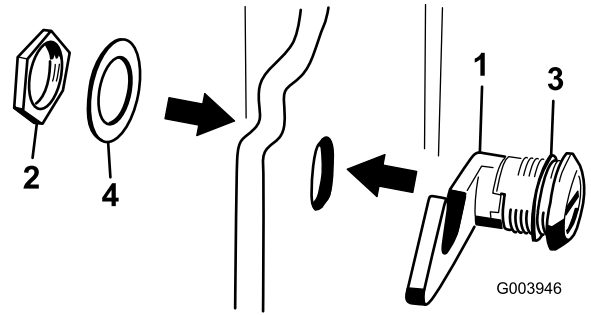

Figure 5
3. Remove the nut from the hood-latch assembly (Figure 5).
4. On the outside of the hood, insert the hook end of the latch through the hole in the hood and ensure that the rubber-sealing washer remains to the outer side of the hood (Figure 5).